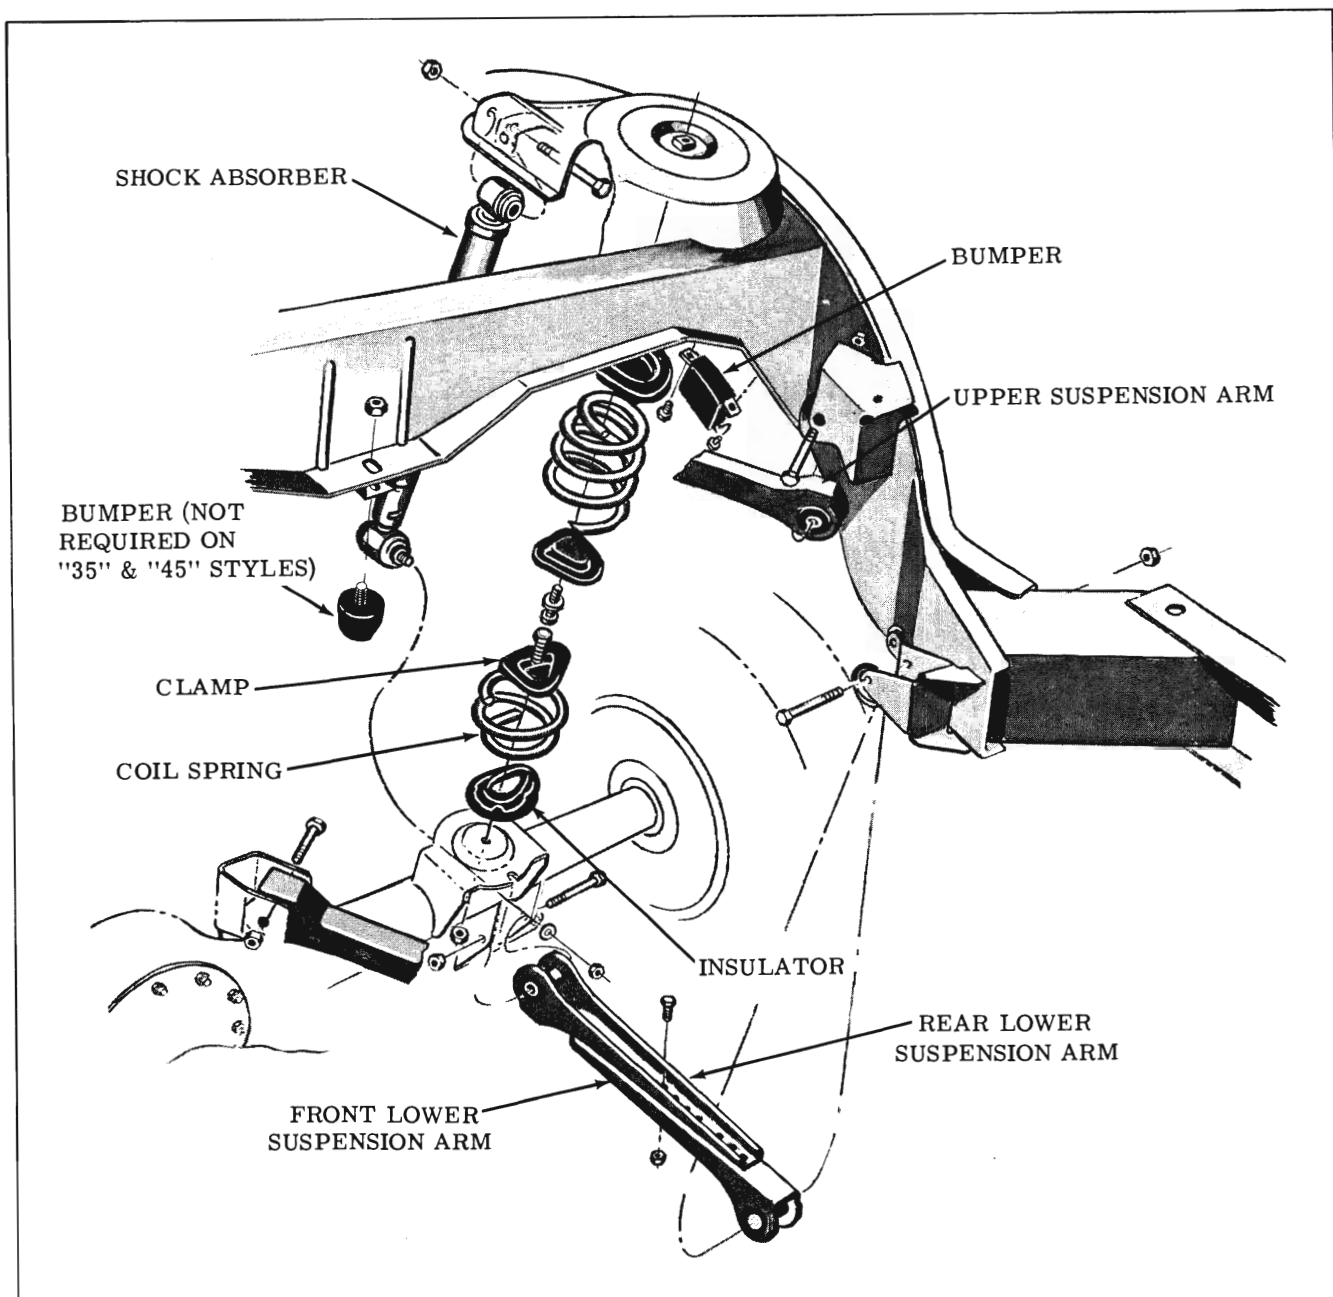

Fig. 5-32 Rear Suspension
### REMOVE AND INSTALL (Fig. 5-32)
**REAR SUSPENSION ARMS (Fig. 5-32)**
**Remove (Fig. 5-32)**